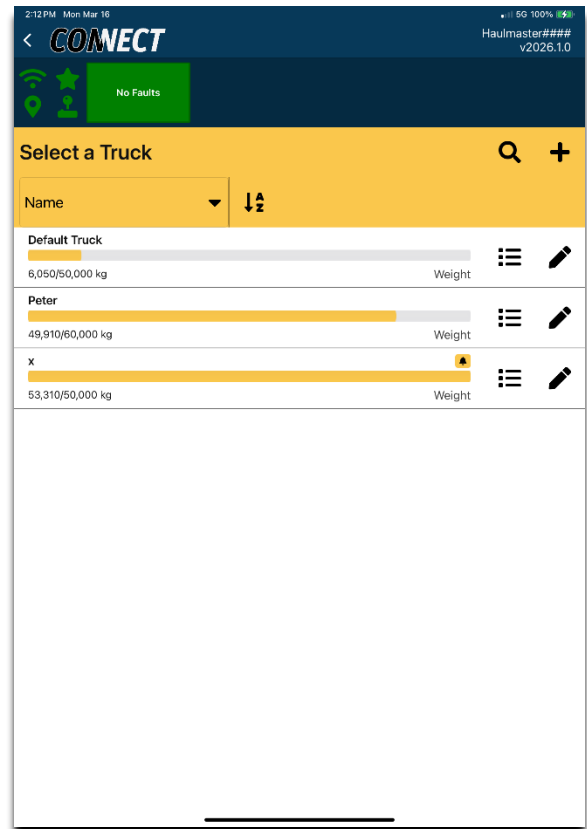

Figure 138 Select a Truck
3. Press the **New Truck Name** button, Figure 138, to enter a new truck name. Press **Set** when done.